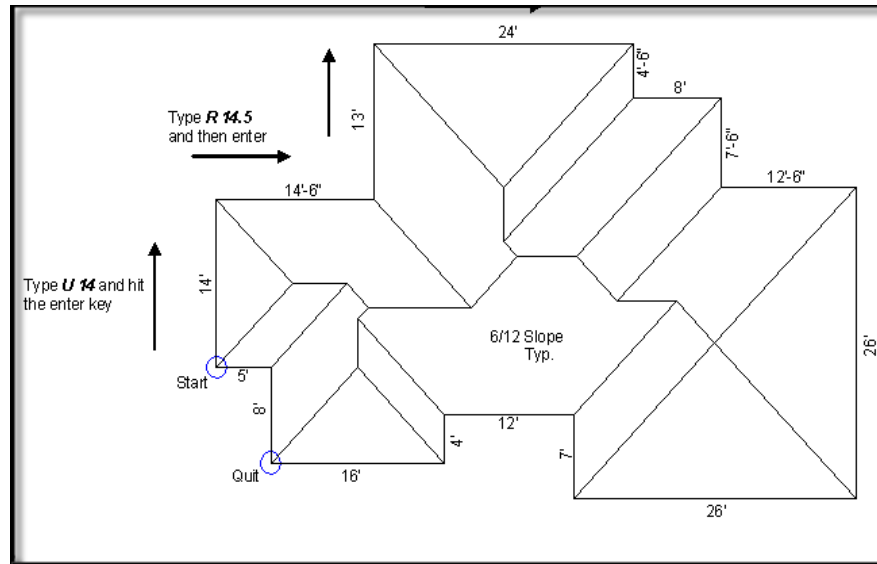

Figure 1-7 Roof coordinate instructions
9. Continue entering the coordinates in a clockwise direction, as in *Figure 1-7*, until you reach the point marked Quit.